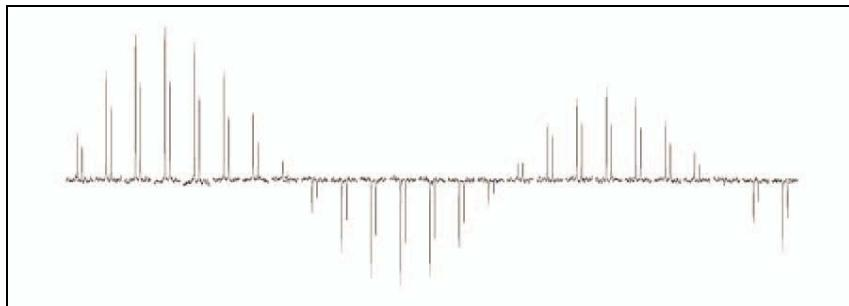

Figure 77 CPMAS pwX90 for 4.0 /s 13C 90-degree pulse
- The result is similar to Figure 77.